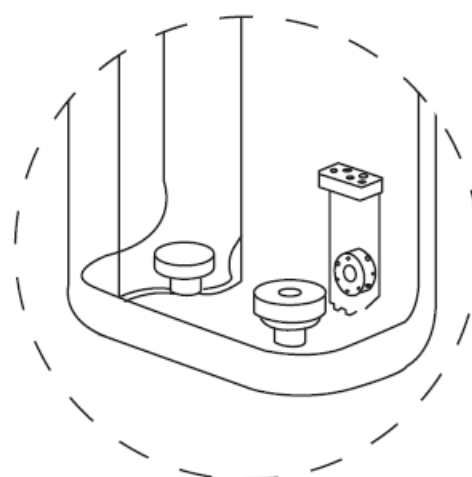

Figure 2
3. After cleaning, insert the floating ball into the groove. Then put on the floating ball silicone cover and filter screen covers tightly, as shown in the figure. (Figure 2)